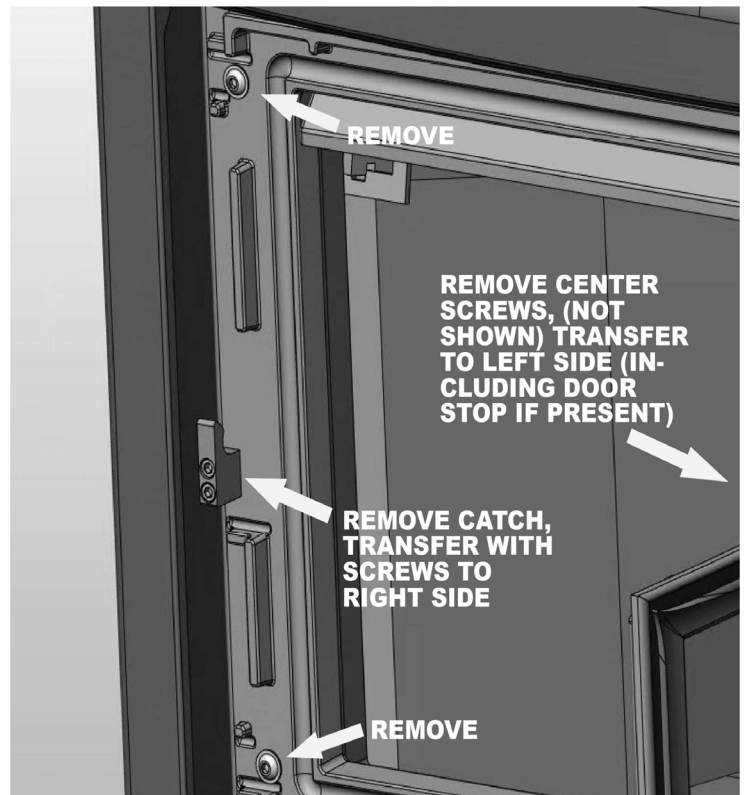

Figure 16: Transfer Latch and Screws
Step 2: Using a 5/32 (4mm) hex wrench, remove top and bottom screws (see figure 16) from left side holes where hinges will be mounted. Remove latch catch. Save screws to plug holes when hinges and catch are moved.
Step 7: Reinstall the latch catch where the door stop was removed from. Use the screws removed in Step 2 to plug the tapped holes where the hinges were removed from (Figure 16).